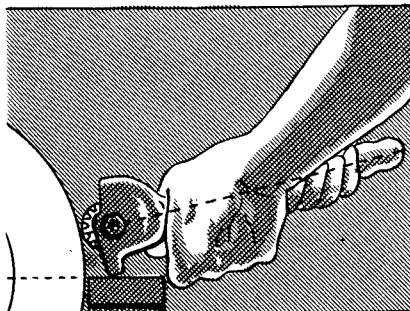

FIG. 556
5. Support the dresser on the tool rest and, if necessary, adjust the height of the tool rest until the point of contact of the dresser is slightly above the center of the grinding wheel. The purpose of this is to prevent the dresser from being drawn into the wheel (Fig. 556).
7. "Cant" the dresser slightly upward to prevent chatter. Chatter is caused by the tendency of the revolving wheel to force the dresser away from the wheel face and the inability of the hand to maintain an even pressure against the wheel (Fig. 556).